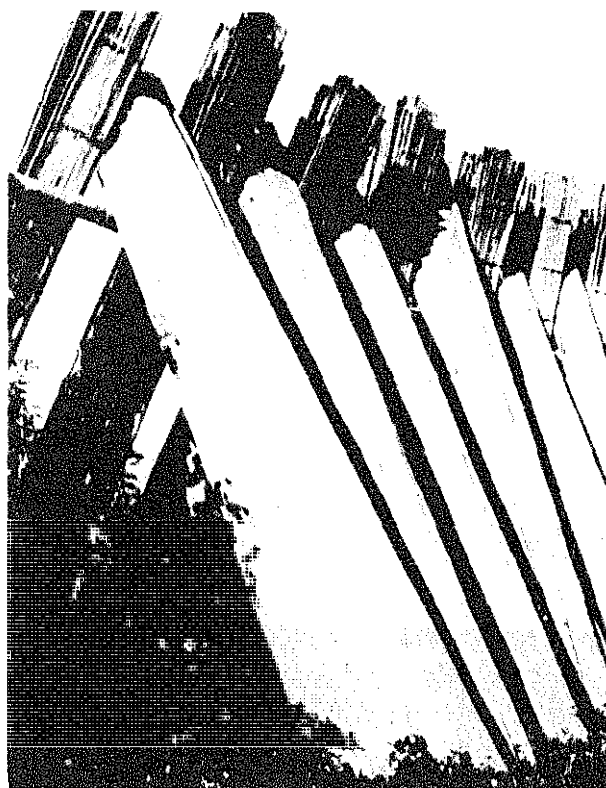

FIGURE 14--Bamboo boards stand ready for use. The making of these boards is a well-developed trade in both Ecuador and Colombia.
- o Store the boards as shown in Figure 14.